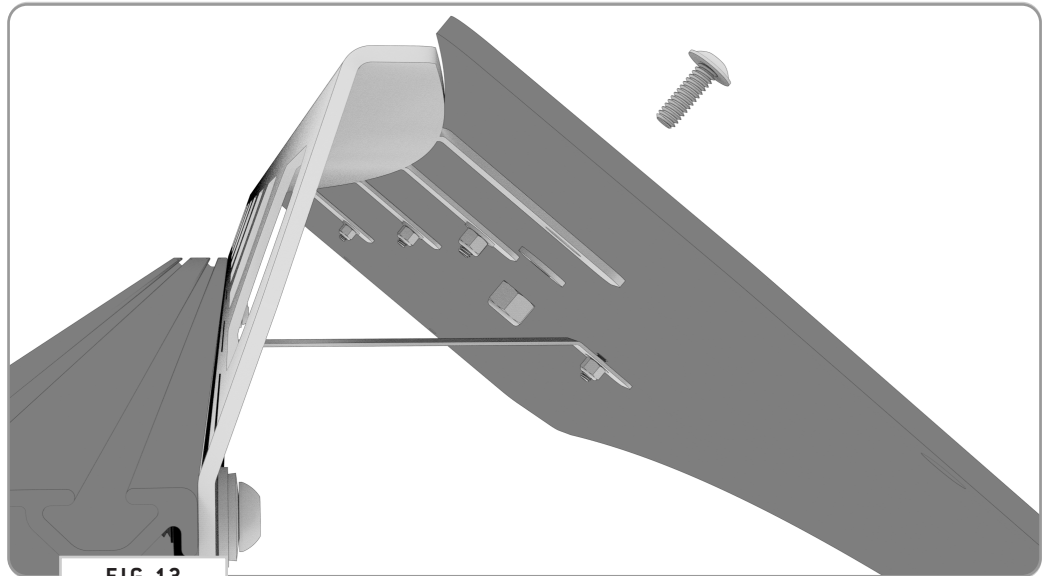

FIG 13
4.5 Attach Front Fairing: Attach the **Front Fairing** to the Assembly using **1/4-20 x 0.75 Flanged Button Head Screws**, **Flat Washers** and **Nylon Locknuts** (FIG 13).